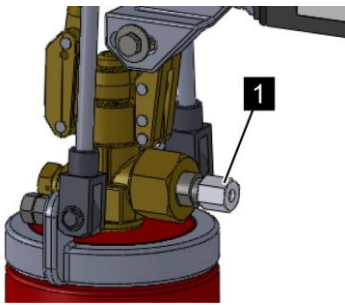

Fig. 145: Disconnect the pilot line
4. ➔ Remove the pilot line from the connection (Fig. 145/1) on the valve.